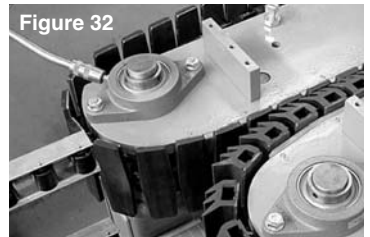

Figure 32
Using a grease gun loaded with moly grease, pump a small amount of the grease into each fitting on the (7) seven sprocket and spur gear shaft flange bearings (see Figure 32). The flange bearing nearest to the large spur gears is located lower than the other six bearings. There are no bearings between the top of the gearboxes on either side of the center chain conveyor drives.